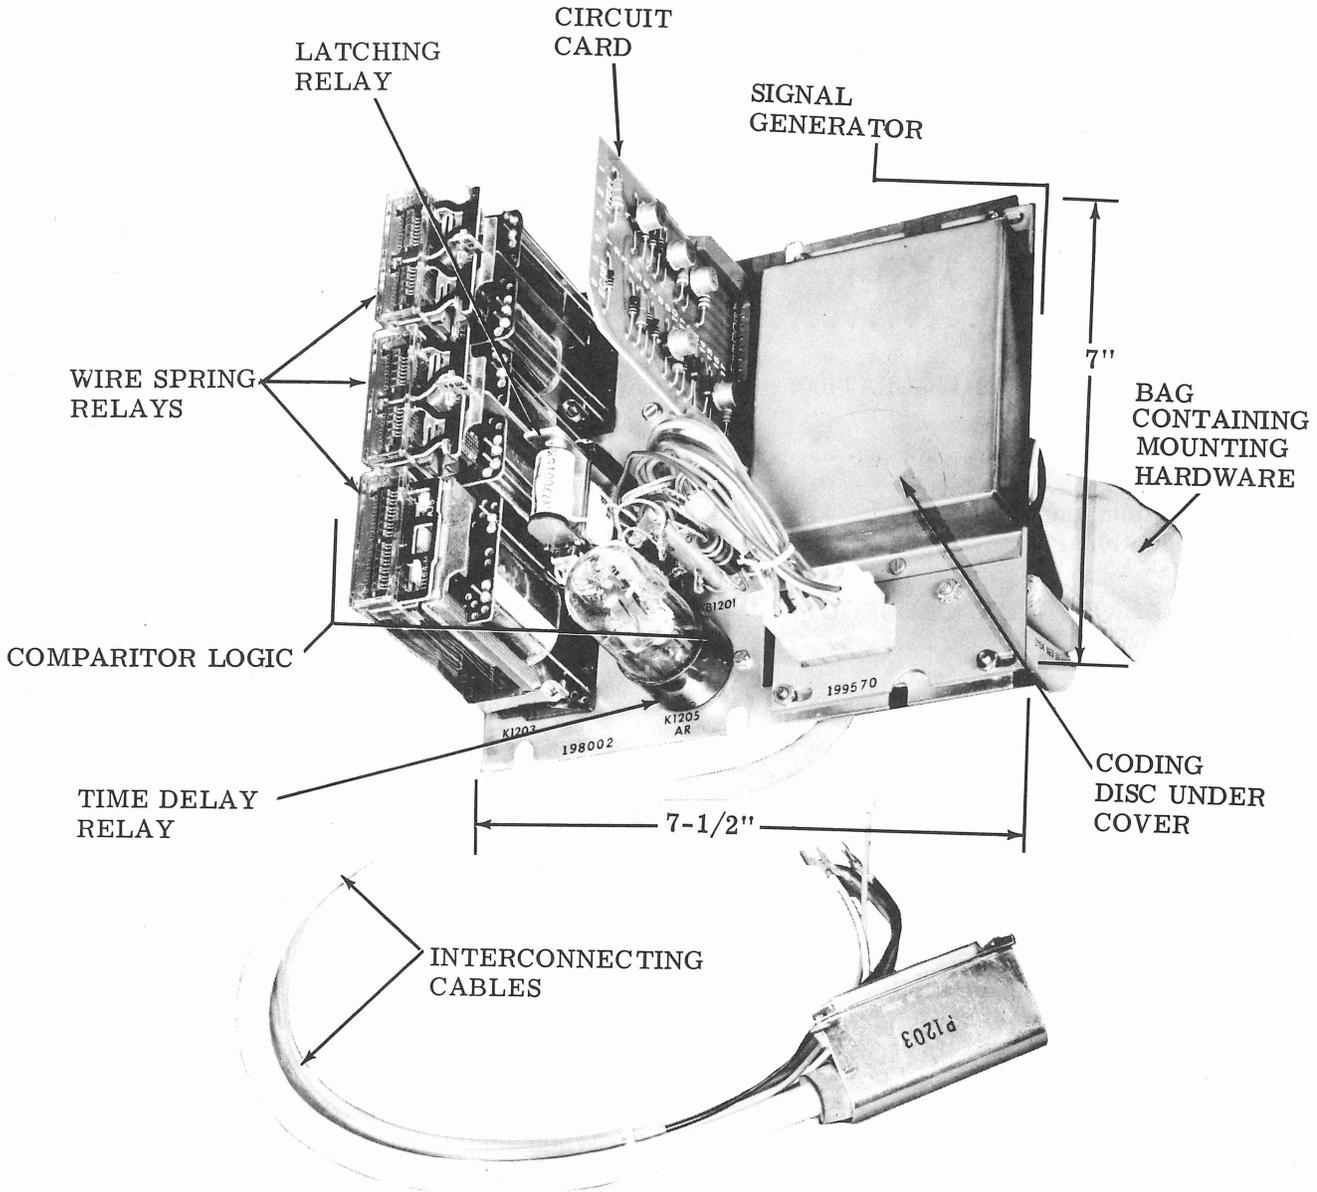

Figure 1 - TP198002 Recognizer Apparatus Unit Option
2.01 The recognizer apparatus unit is essentially a decoding device (Figure 1). When installed in a Tape Sender it causes the Sender to respond automatically to a properly coded request for data from a Tape Receiver, computer, or other business machine. Data can thus be transmitted automatically from an unattended Tape Sender to those callers which have facilities for generating the appropriately coded data request.
2.03 The option consists of a comparator logic assembly and a signal generator (Figure 1). The logic includes three wire spring relays, a latching relay, a time delay relay, and a solid-state circuit card. The signal generator consists
A. Dimensions (Figure 1)